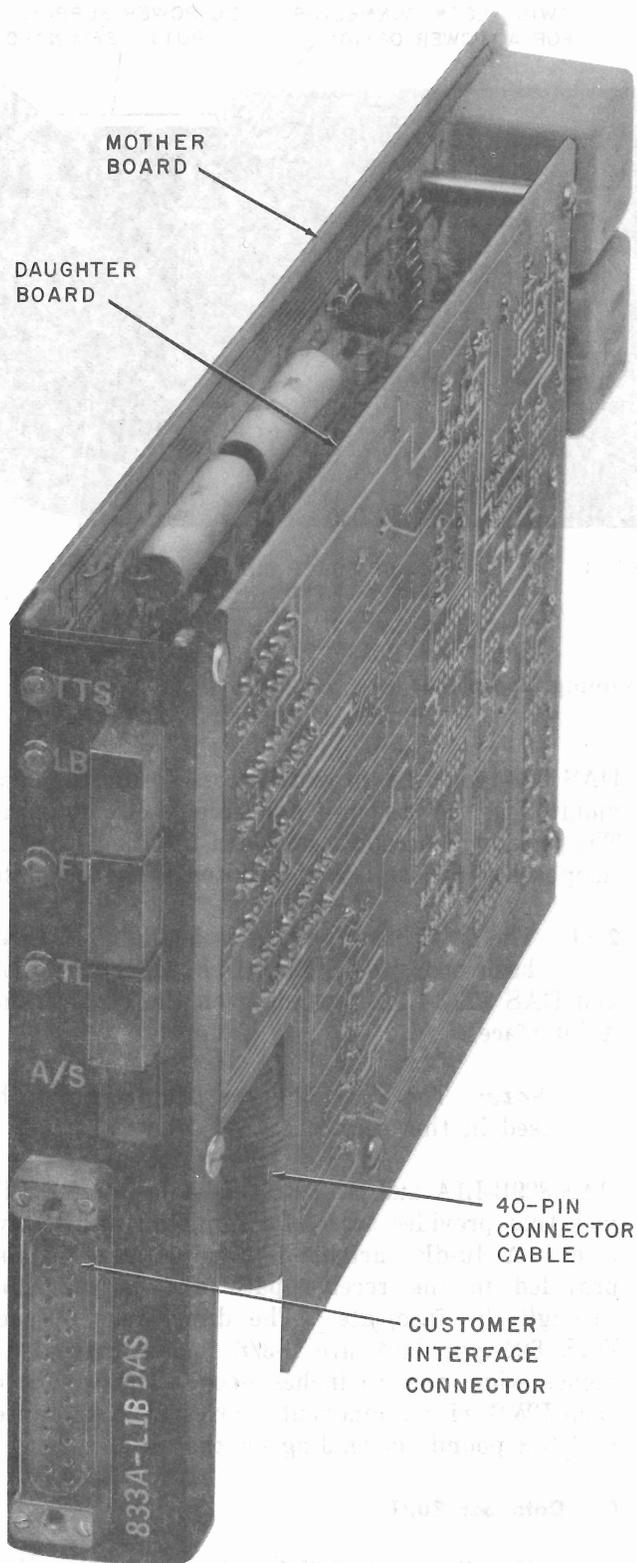

Fig. 4—Data Auxiliary Set 833A-Type
**2.08** The DAS 833A-type (Fig. 4) has component parts mounted on two printed wiring boards (PWBs) arranged in a mother-daughter type CP. The mother board contains the primary tone detection, secondary tone detection, and hazardous voltage protection circuits. (See Section 314-410-550 for information on primary and secondary tones.) The daughter board contains the customer interface, control signal logic, and test circuits. Four status indicators (TTS, LB, FT, and TL) and four test